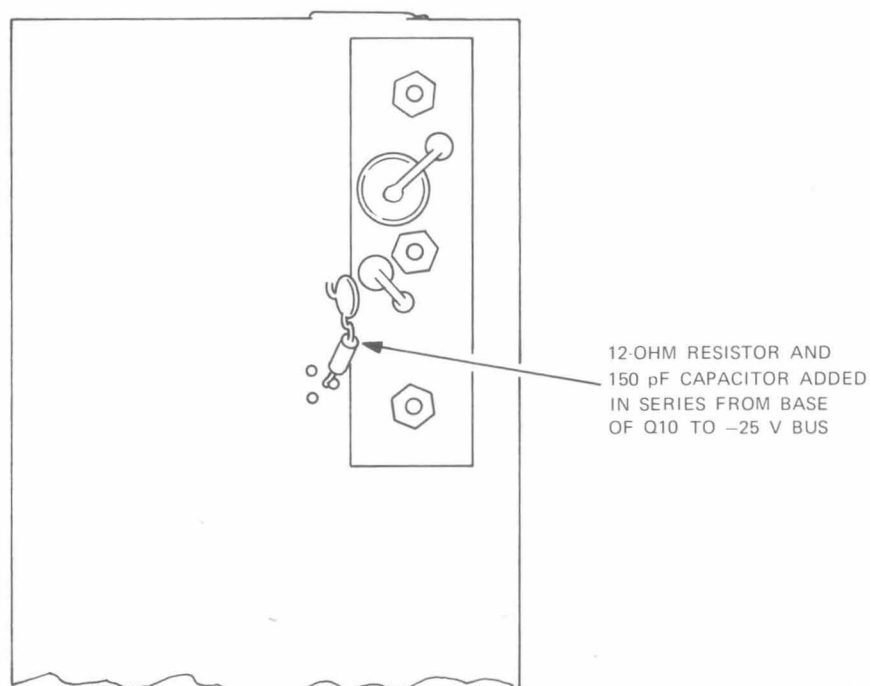

Figure 2. Output Board, Circuit Side
12. On the circuit side of the output board connect 12 ohm, 1/4 watt resistor and 150 pF capacitor (supplied in kit) in series from the base of Q10 to the -25 V bus. See Figure 2. Cut leads as short as possible.